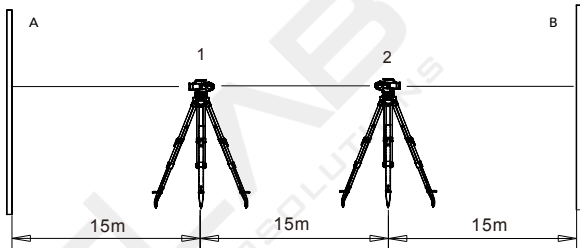

fig. 17
- Set staff A and staff B with 45 metres distance and set Point 1 at 15 metres and Point 2 at 30 metres at Points where instrument set up (fig. 17)